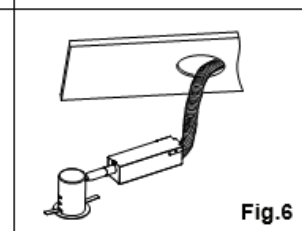

Fig.6
6. Place all wiring and connectors back in wiring box and replace junction box door (as Fig.6).